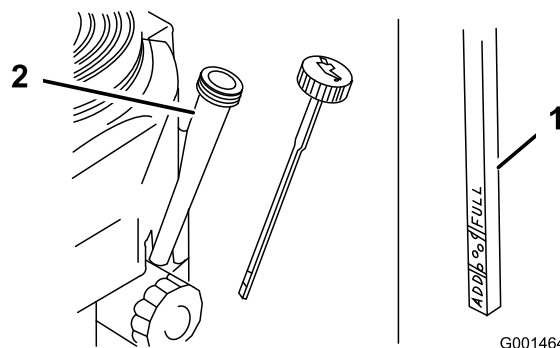

Figure 27
4. Clean around the oil dipstick (Figure 27) so that dirt cannot fall into the filler hole and damage the engine.
5. Unscrew the oil dipstick and wipe the end clean (Figure 27).
6. Slide the oil dipstick fully into the filler tube, but do not thread onto tube (Figure 27).
8. Slowly pour approximately 80% of the specified oil into the filler tube (Figure 27).